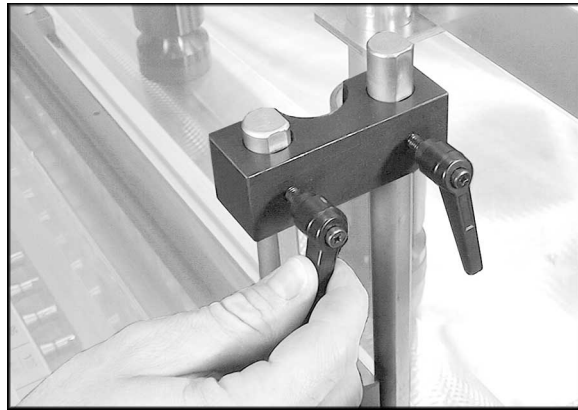

Figure 33
5. Loosen locking handle on the lower bar at both ends of the fence, as shown in Figure 33.